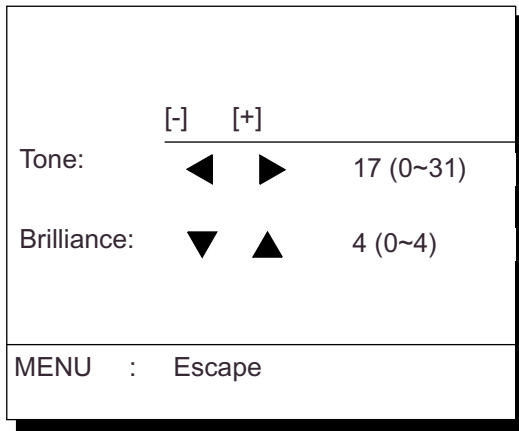

Figure 1-3 Screen for adjustment of display tone and brilliance
- 1) Press the [TONE] key. The display shown in Figure 1-3 appears.